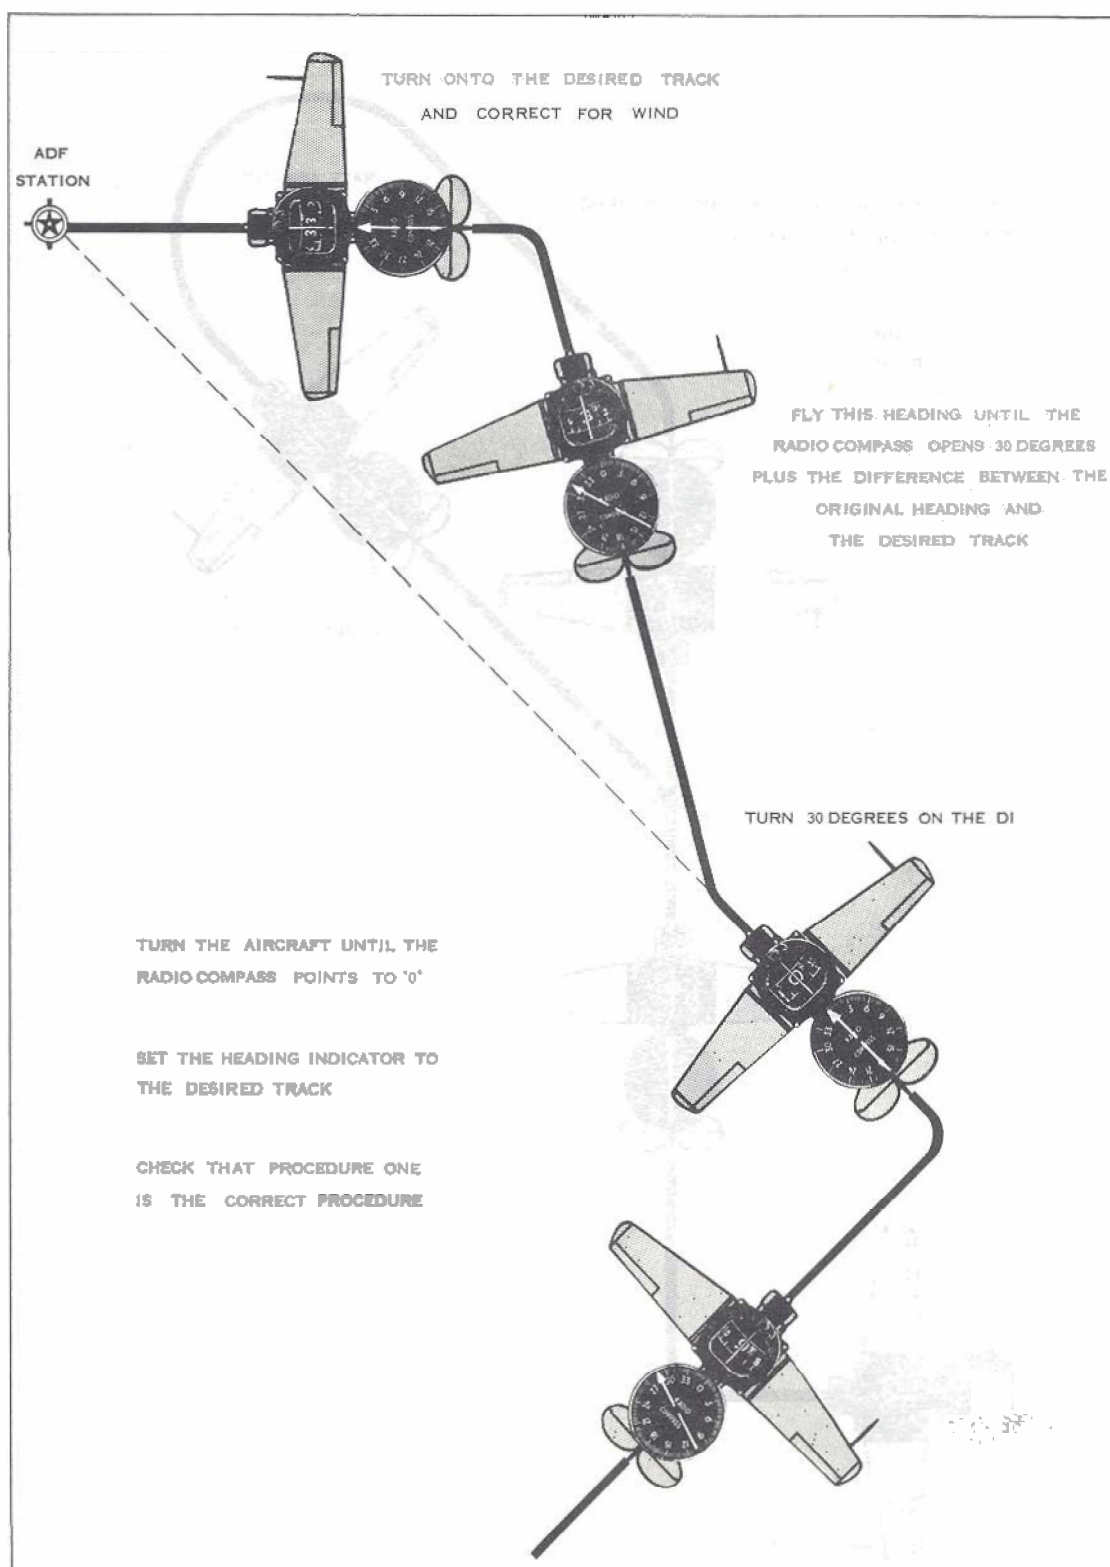

Figure 3: Procedure One
- (b) fly this new heading until the radio-compass needle opens 30 degrees plus the difference between the original heading and the desired track; (Figure 3 opposite)
- (d) if the drift is not known, correct for drift as outlined in paragraph (2).